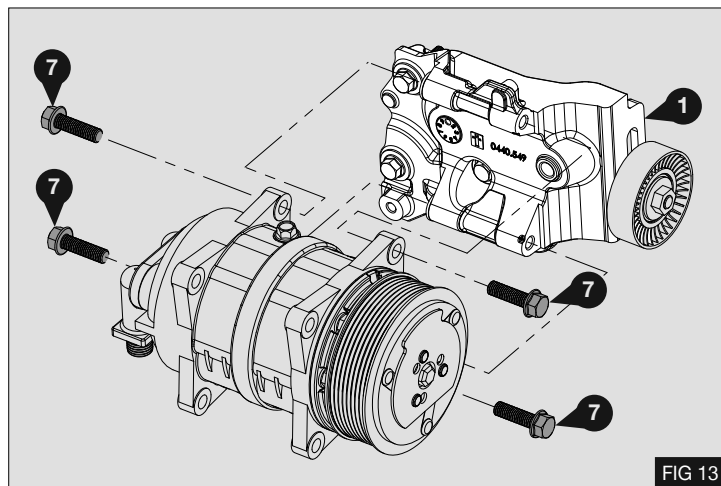

FIG 13
3. Install the compressor to the mount bracket (1) using the 4x supplied bolts (7) – Fig 13
**Important:** Follow the tighten procedure below for bolts (7)
4. Torque the 2x front bolts (7) to 63 Nm / 46 lb-ft
5. Tighten the 2x rear bolts (7) until the sliding bushes in bracket (1) contact the rear compressor ears. Then torque the 2x rear bolts (7) to 63 Nm / 46 lb-ft